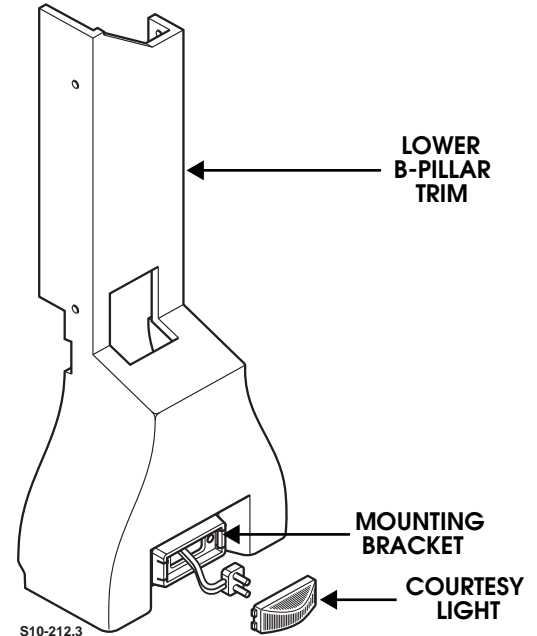

Figure 10-166: Rear Seat Courtesy Light Replacement
1. Carefully pry courtesy light from mounting bracket (Figure 10-166).
1. Connect courtesy light to the electrical connector (Figure 10-166).